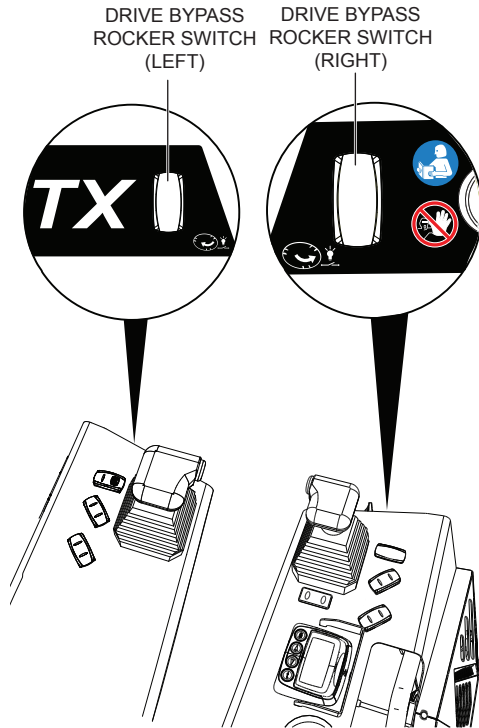

Figure 64. Drive Bypass Rocker Switch
5. To finish installing the float pan onto the remaining finisher blades, turn the rotors by pressing and holding the left or right drive bypass switch (Figure 64) and the foot pedal.